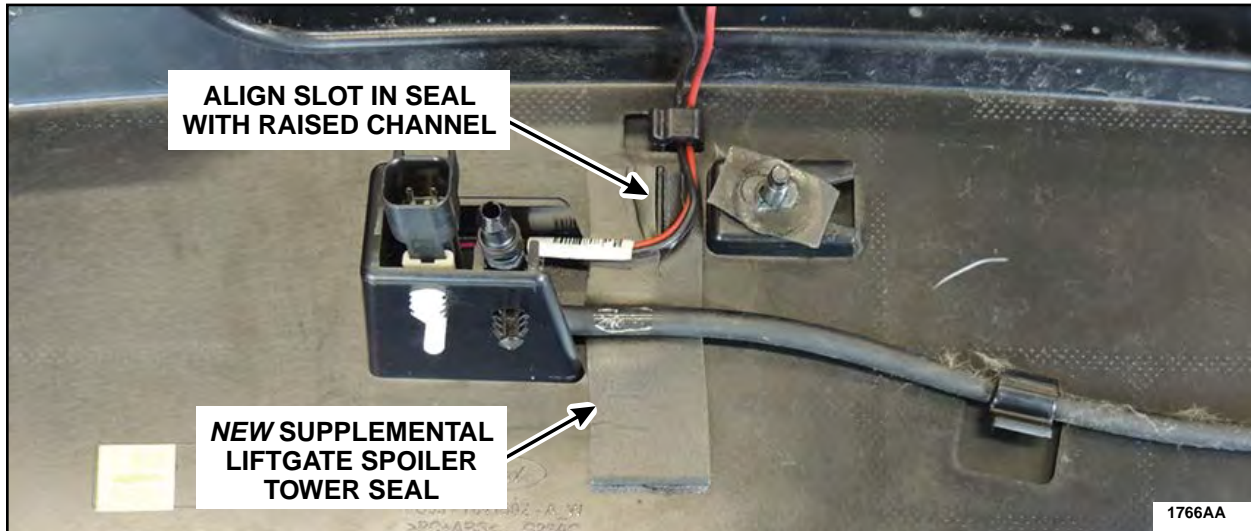

FIGURE 13
5. Install a *new* supplemental liftgate spoiler tower seal underneath the wiring and washer line. Make sure the slot in the seal is aligned with the raised channel on the spoiler. See Figure 13.